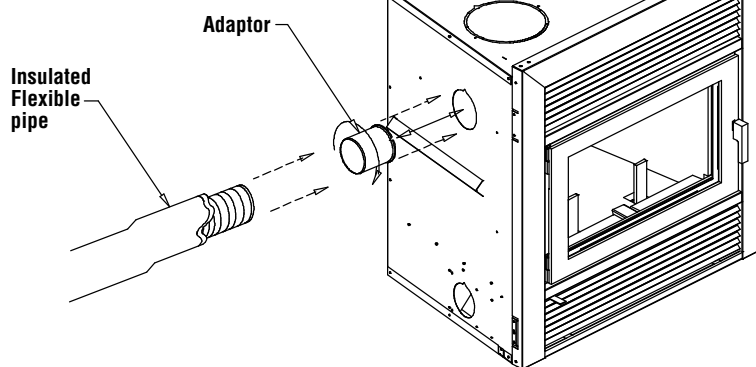

Figure 23
- B) Fix the adaptor at the back and/or the side of the fireplace by twist-locking the adaptor to the fireplace. You can use more than one outlet on the fireplace (**Figure 23**).